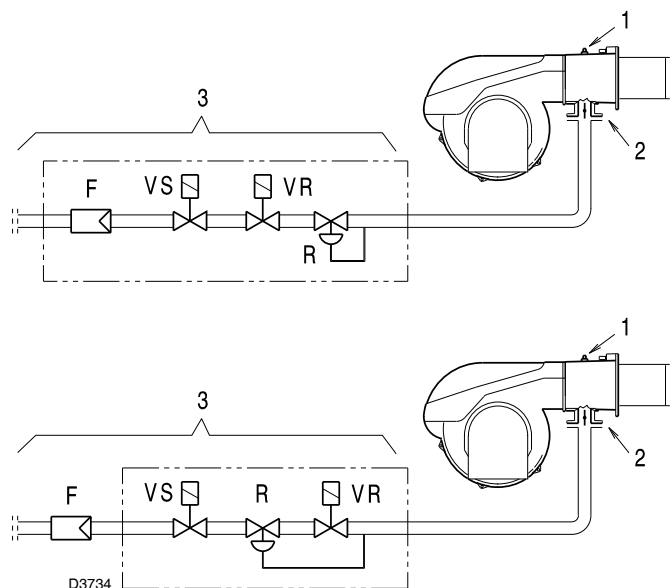

Fig. 23
Gas pressure measured at test point 1)(Fig. 23), with:
Pressure loss at gas butterfly valve 2)(Fig. 23) with maximum opening: 90°.
- subtract the combustion chamber pressure from the gas pressure measured at test point 1)(Fig. 23).
Gas pressure at test point 1) (Fig. 23) = 11.7 mbar
To calculate the required gas pressure at test point 1) (Fig. 23), set the maximum modulating output required from the burner operation:
- Read, on the right (column 1), the pressure at the test point 1) (Fig. 23).
pressure required at test point 1)(Fig. 23).